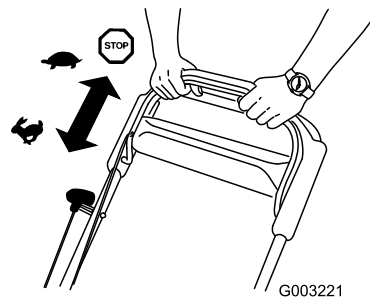

**Figure 16**
2. Push the electric-start button (Figure 15) or pull the recoil-start handle (Figure 16) lightly until you feel resistance, then pull it sharply, and allow it to return to the rope guide on the handle slowly.